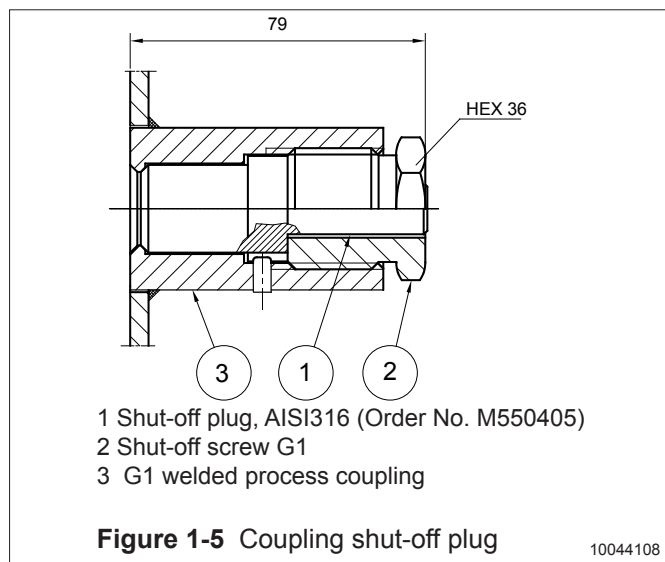

Figure 1-5 Coupling shut-off plug
- The analyzer must be **out of the coupling** while the coupling is welded. You can use the shut-off plug shown in Fig. 1-5 to shut the coupling. The plug protects the coupling's sealing face and permits the starting of the process without the transmitter.